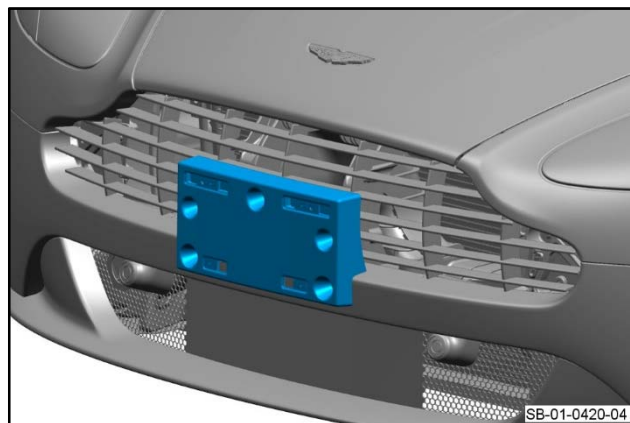

Figure 4
4. Put the license plate plinth into position (refer to Figure 4).